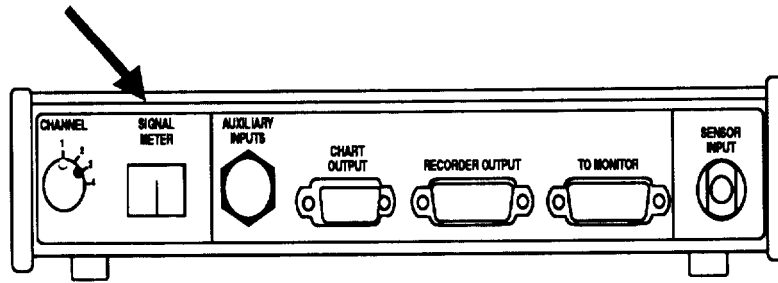

Figure 3
5. Monitor the signal level by selecting the appropriate CHANNEL on the Model 2700 Recorder signal channel and observing the signal strength on the rear panel meter. See figure 3.